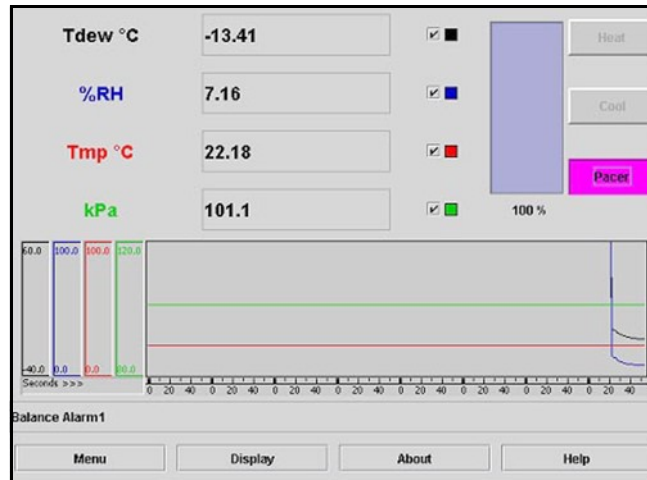

**Figure 46: Balance Adjustment Screw Locations**
- If more than one bar segment or no bars are illuminated, use the screw or hex driver to adjust the optical bias screw (shown in *Figure 46* below) on the sensor until only one bar is illuminated. You are performing a coarse balance adjustment.